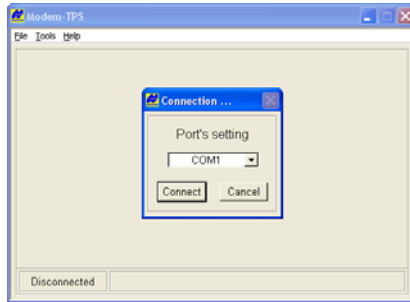

Figure 3-1. Connect to Modem-TPS
- Open Modem-TPS, and select the COM Port the receiver is connected to (Figure 3-1 on page 3-4). Click **Connect**.